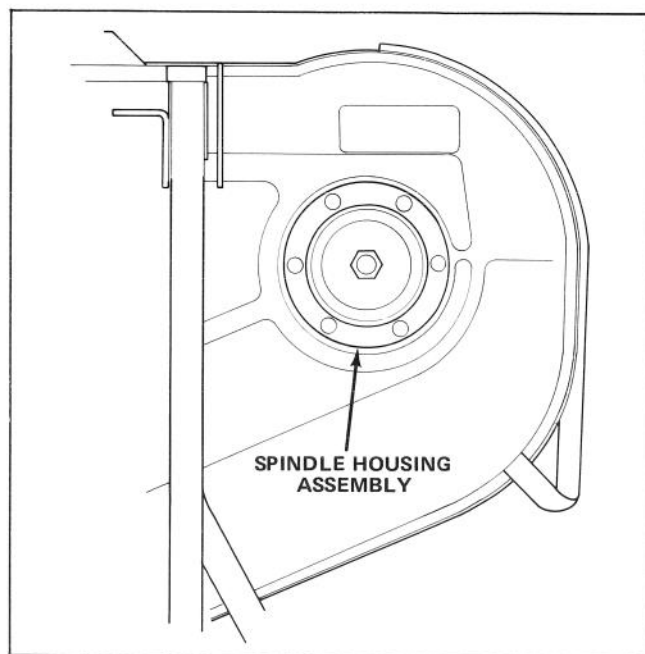

Figure 31
5. Remove six carriage bolts and flange nuts holding spindle housing assembly and support ring against cutting unit (Fig. 31). Slide spindle housing assembly out bottom of cutting unit.